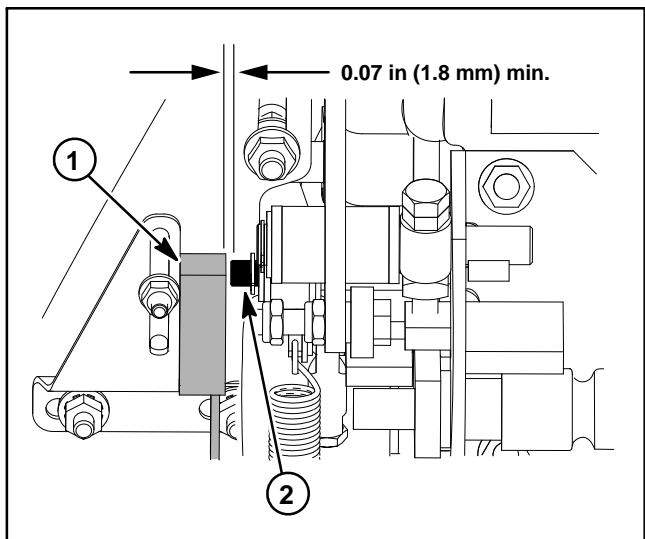

Figure 14
3. When the traction pedal is in the neutral position, the pin on the traction pedal should be centered with the switch eye. With the traction pushed all the way to the right, the clearance between the pin on the traction pedal and the switch should be no less than **0.07 in (1.8 mm)** (Fig. 14).